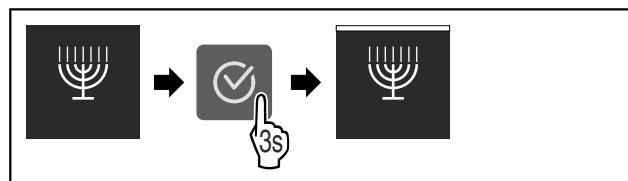

Fig. 13
- Complete the steps (see Fig. 13) .